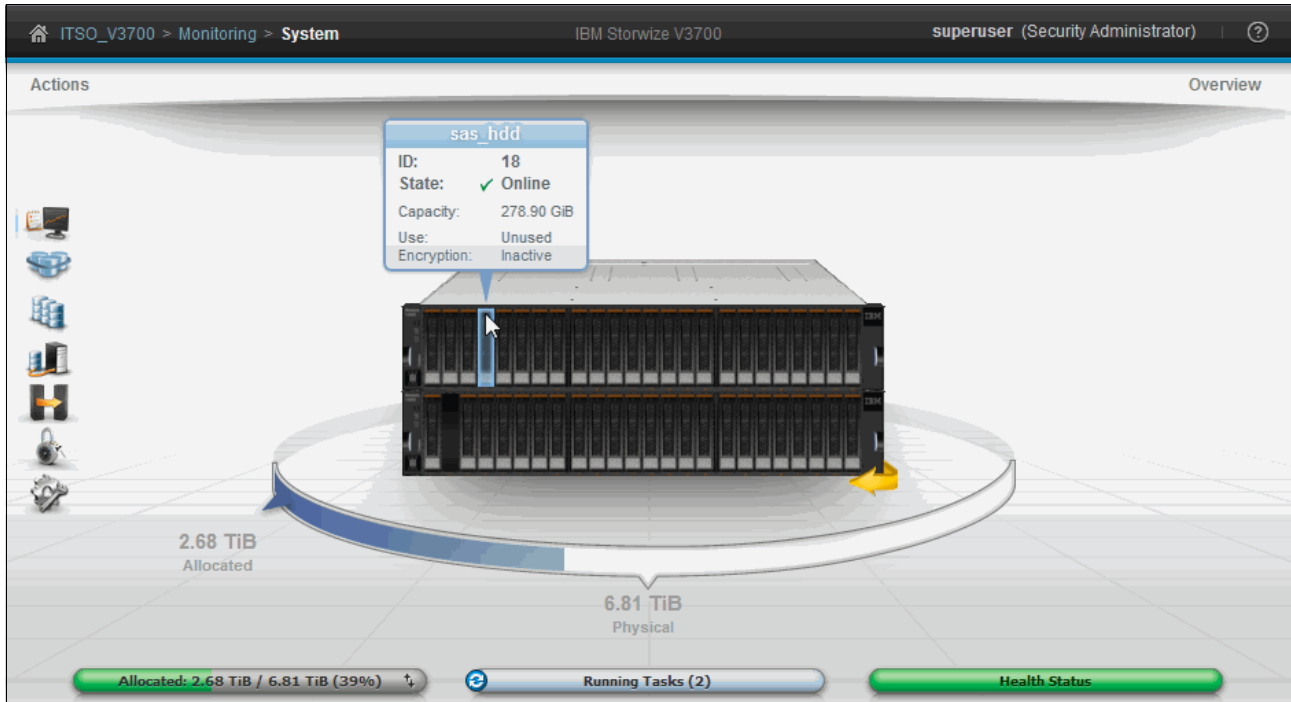

Figure 3-37 System pane: Front view
1. Select **System** in the Monitoring menu to open the pane. This pane shows a 3D graphical representation of the front of the system, as shown in Figure 3-37.
- Click the arrow at the lower-right of the graphic, as shown in Figure 3-37, to rotate it to show the rear of the system.